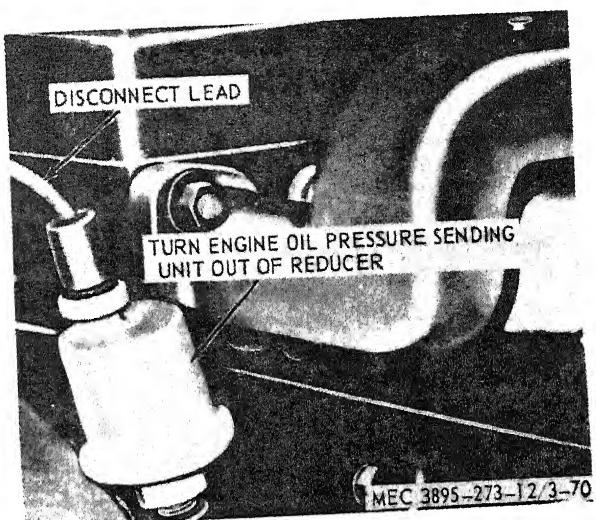

Figure 3-66. Engine oil pressure sending unit, removal and disassembly.
a. *Removal.* Remove the engine oil pressure sending unit as instructed on figure 3-66.
- (1) Clean the engine oil pressure sending unit with a cloth and approved cleaning solvent.
(2) Inspect the unit for damage and for proper operation. Replace a defective unit.
c. *Installation.* Install the engine oil pressure sending unit in reverse of the instructions on figure 3-66.